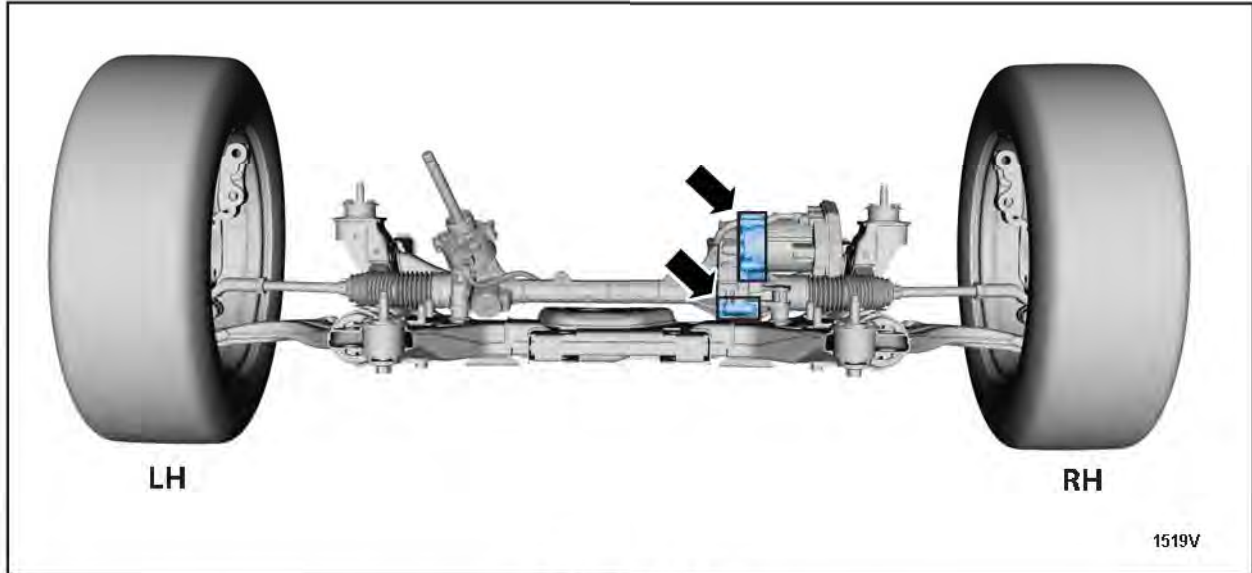

FIGURE 16
3. Working from the rear of the subframe, insert nozzle between the steering gear and subframe underneath housing seam. Apply sealant to gear motor bolt three, steering gear to housing seam and housing bolts four and eight heads, threads and thread holes. See Figures 16 and 17.